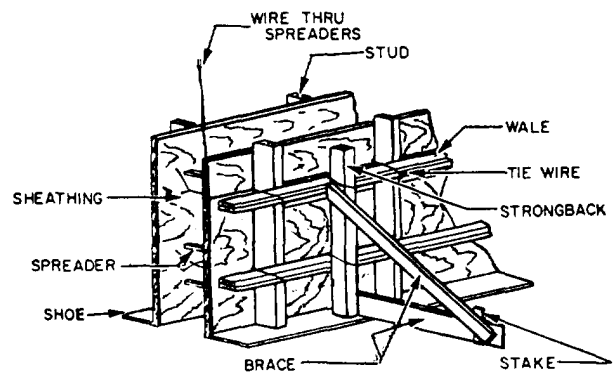

Figure 7-8.-Form for a concrete wall.
Wall forms (figure 7-8) may be built in place or prefabricated, depending on shape and desirability of
**BRACING.**— Many types of braces can be used to add stability and bracing to the forms. The most common type is a diagonal member and horizontal member nailed to a stake and to a stud or wale, as shown in figure 7-8. The diagonal member should make a 30° angle with the horizontal member.